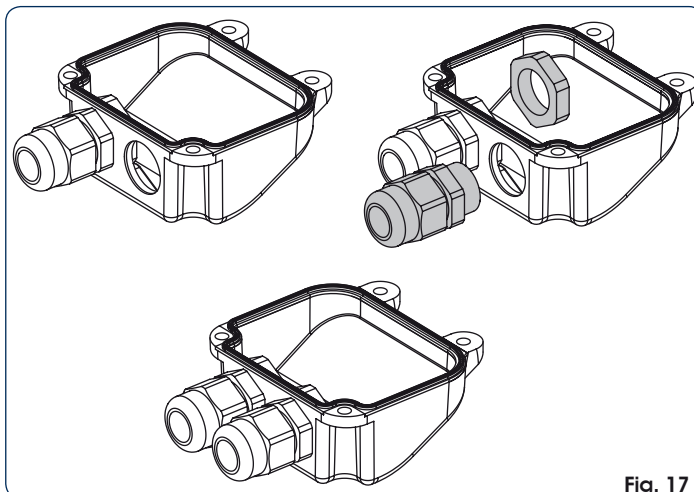

Fig. 17
1. Open the second pre-drilled hole in the cover, Fig.17.
2. Fit the supplied cable gland, Fig.17.